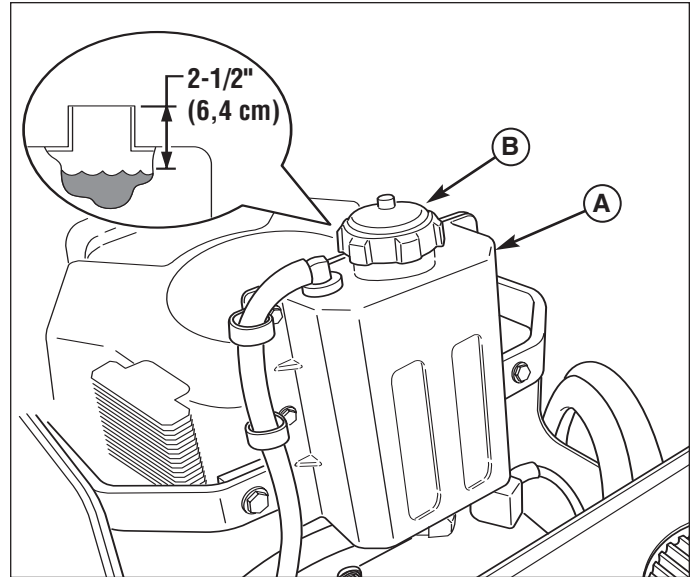

Figure 16. Checking Hydraulic Oil Level
2. Unscrew the reservoir cap (B, Figure 16).
3. Look down the filler neck of the hydraulic oil reservoir (A, Figure 16) and observe the oil level. When cold, the oil level should approximately 2-1/2" (6,4 cm) below top of the filler neck.